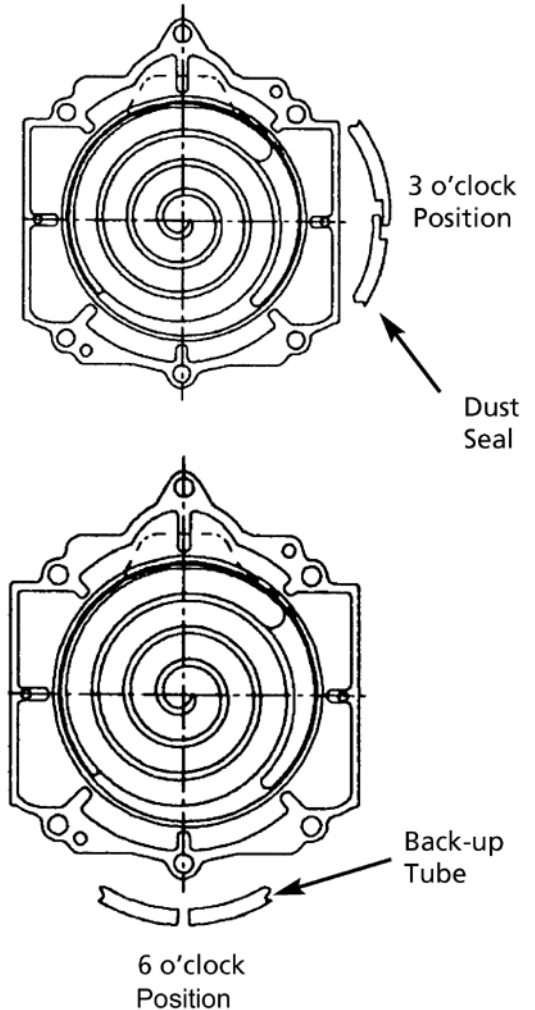

Figure 9. Dust Seal and Backup Tube Orientation.
- m. Remove the dust seal and the backup tube from the outermost groove on the fixed scroll set (see Figure 9).
- n. Insert the new backup tube in the fixed scroll groove with the ends positioned in the 6 o'clock position (see Figure 9).
- o. Insert the new dust seal over the backup tube. Face the seamed section on the dust seal in the 3 o'clock position (see Figure 9).
- p. After replacing the tip seal set, reassemble the fixed scroll set onto the orbit scroll set. Tighten the six (6) nuts temporarily and confirm if the crankshaft rotates smoothly by hand. If so, then tighten them firmly.